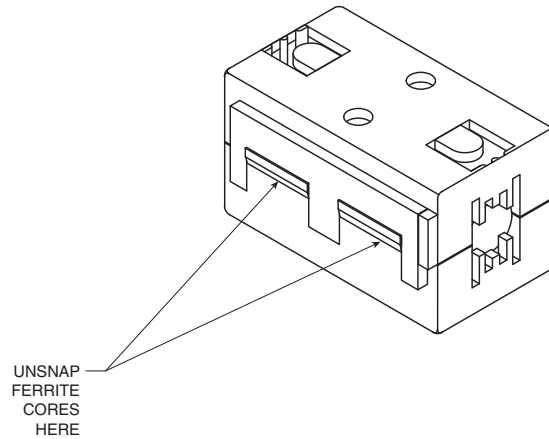

Figure 6-2 Ferrite Core
1. Using a small screw driver or other suitable instrument, unsnap the ferrite core to open it (as shown in Figure 6-2).